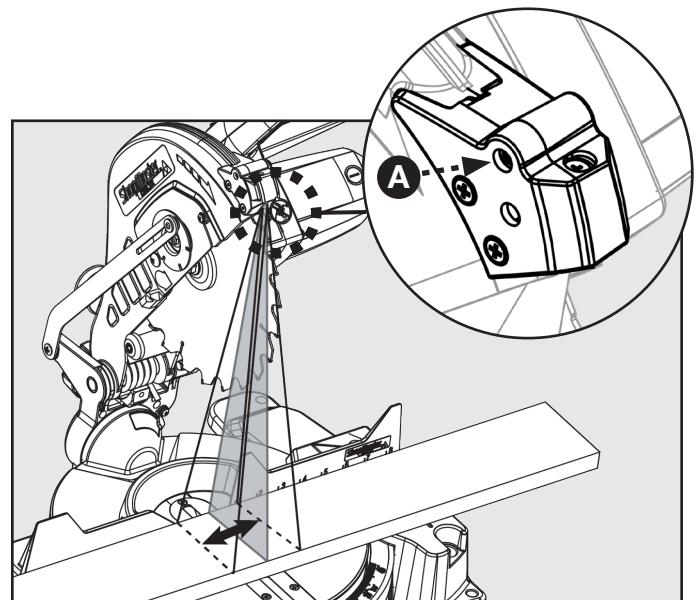

FIGURE 27
If you notice the laser line is offset from the actual cut line refer to Figure 27 and follow these instructions: using a Phillips head screwdriver turn the screw (A) to adjust the offset.